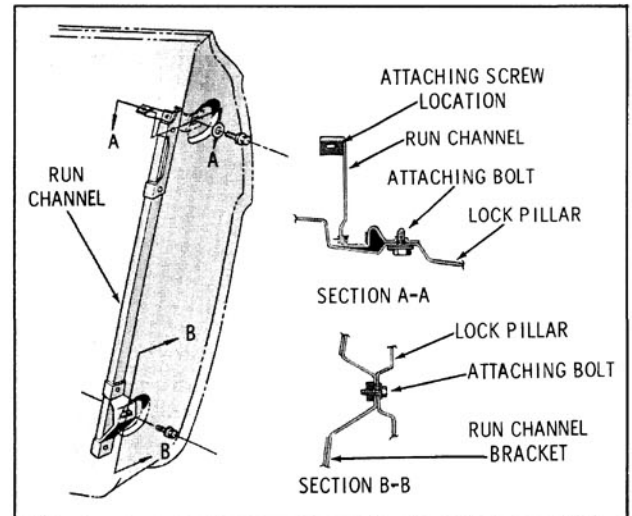

Fig. 16-50 Front Door Glass Run Channel
3. Remove the glass run channel two attaching bolts on lock pillar panel and the single attaching screw in door inner panel. (Fig. 16-50)